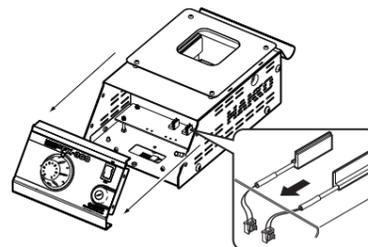

Fig. 5
- Slide the front panel forward, disconnect the two connectors (Fig. 4) from the connector circuit board, and then pull out the units of the heating elements (Fig. 5).